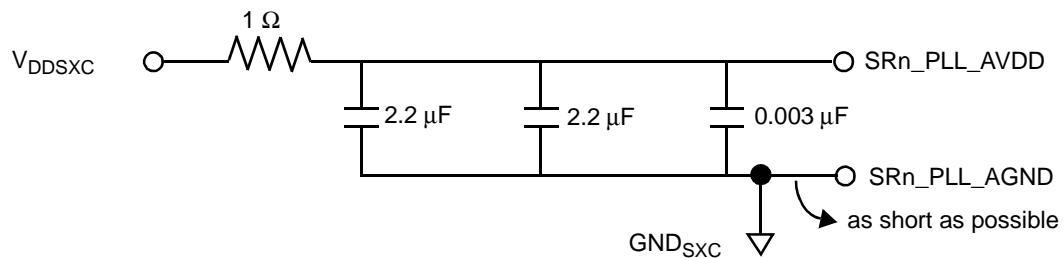

Figure 38. SerDes PLL Supplies
- Couple inputs SR1_PLL_AVDD and SR2_PLL_AVDD with SXCVDD1 and SXCVDD2 power rails, respectively, using an RC filter (see Figure 38).
Each SerDes PLL power supply must be filtered using a circuit similar to the one shown in Figure 38, to ensure stability of the internal clock. For maximum effectiveness, the filter circuit should be placed as closely as possible to the $\text{SR}_n\text{_PLL_AVDD}$ ball to ensure it filters out as much noise as possible. The ground connection should be near the $\text{SR}_n\text{_PLL_AVDD}$ ball. The $0.003 \mu\text{F}$ capacitor is closest to the ball, followed by the two $2.2 \mu\text{F}$ capacitors, and finally the 1Ω resistor to the board supply plane. The capacitors are connected from $\text{SR}_n\text{_PLL_AVDD}$ to the ground plane. Use ceramic chip capacitors with the highest possible self-resonant frequency. All trances should be kept short, wide, and direct.